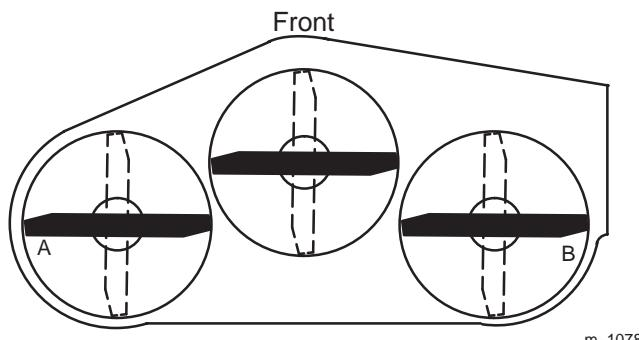
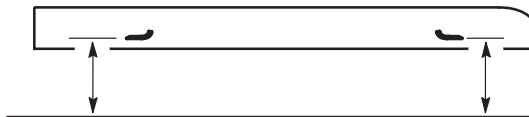

Figure 61
Figure 62
2. Position the blades side-to-side (Fig. 61). Measure at **A** and **B** locations (Fig. 61) from a level surface to the cutting edge of blade tips (Fig. 62).